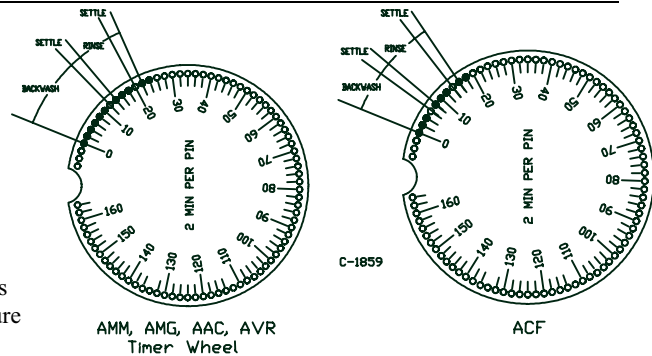

Fig. 9.5 Preset Pin Settings
- Add or remove pins in the backwash or rinse cycles in order to lengthen or shorten the cycle times. See figure 9.5 for factory preset pin settings.